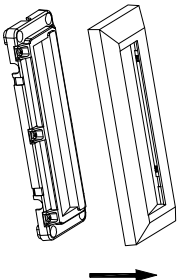

Fig. 2
- Remove the six diffuser retaining screws, remove the diffuser Fig. 2.